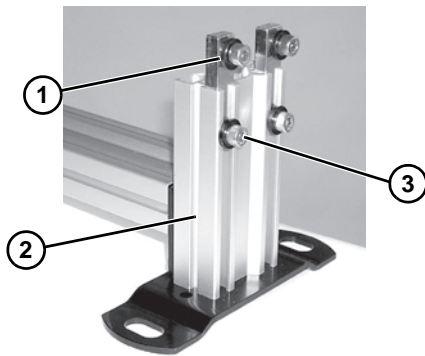
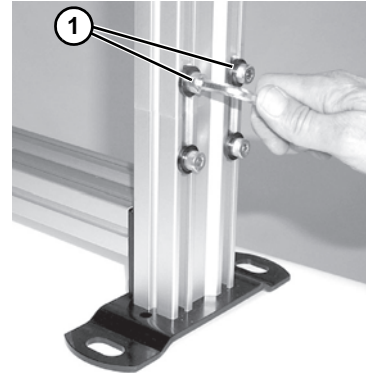

Figure 4
Figure 6
Failure to secure tier joint screws (Figure 4, item 3) and (Figure 6, item 1) may cause tube joining bar and conveyor sections to drop down, causing severe injury.
TIGHTEN ALL TIER JOINT SCREWS (Figure 4, item 3) and (Figure 6, item 1) AFTER INSTALLATION.
4. Install tube joining bar assembly (Figure 4, item 1) at top of leg on base assembly (Figure 4, item 2). Half of tube joining bar assembly must extend above leg, as shown. Tighten screw (Figure 4, item 3) to 130 in-lbs (15 Nm).
7. Tighten screws (Figure 6, item 1) to 130 in-lbs (15 Nm).